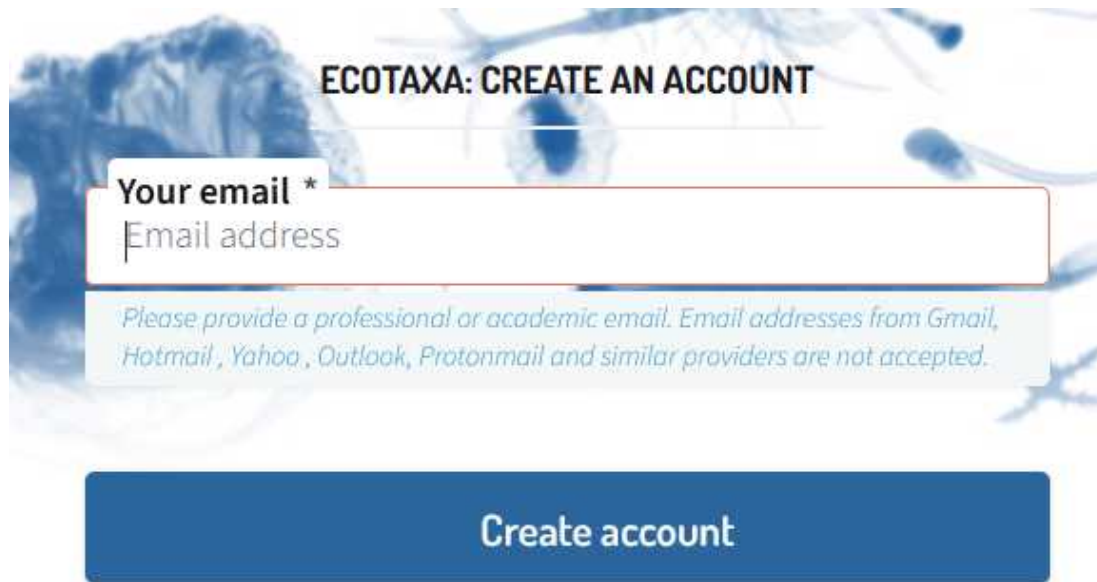

Figure 2: EcoTaxa account creation interface
- Put your real name and a valid mail so that you can be contacted (Fig.2)